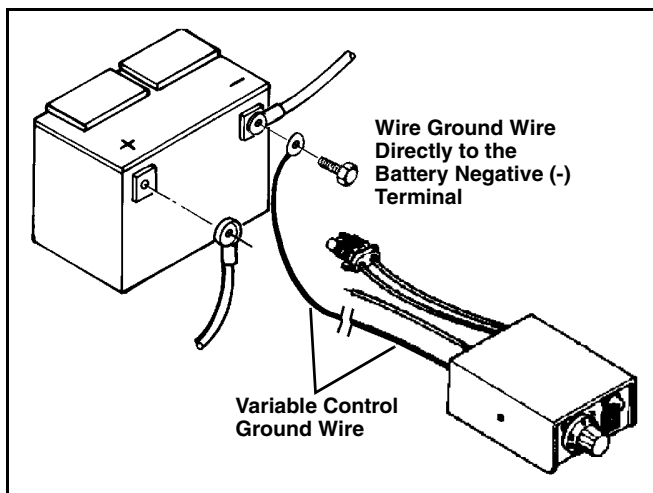

Figure 4-7
- 18a. The variable control unit requires proper grounding for operation. If the ground is not maintained sufficiently the unit may fail prematurely. Very often chassis grounds are insufficient to maintain the proper ground required for the variable control. Directly route the ground wire from the variable control unit to the battery negative (-) terminal. (See Figure 4-7)